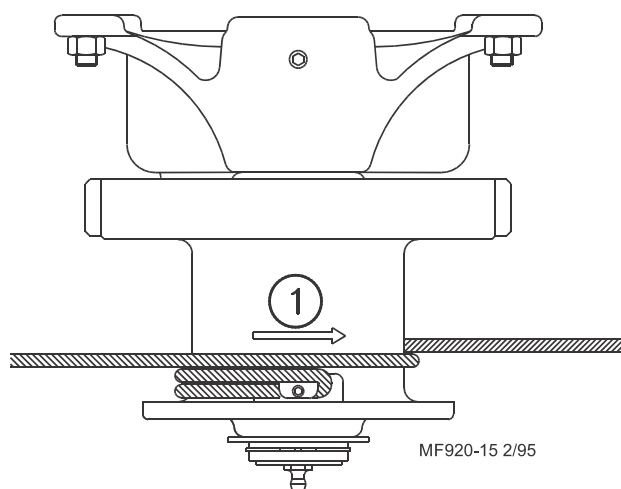

Figure 10. Cable Wrapping (End View)
5. Turn the winch drum one full revolution. Guide the cable against the flange at the bottom of the winch drum. The cable must not wrap over itself on the drum, but should be wrapped as close as possible to each previous wrap. (See Figure 10.).